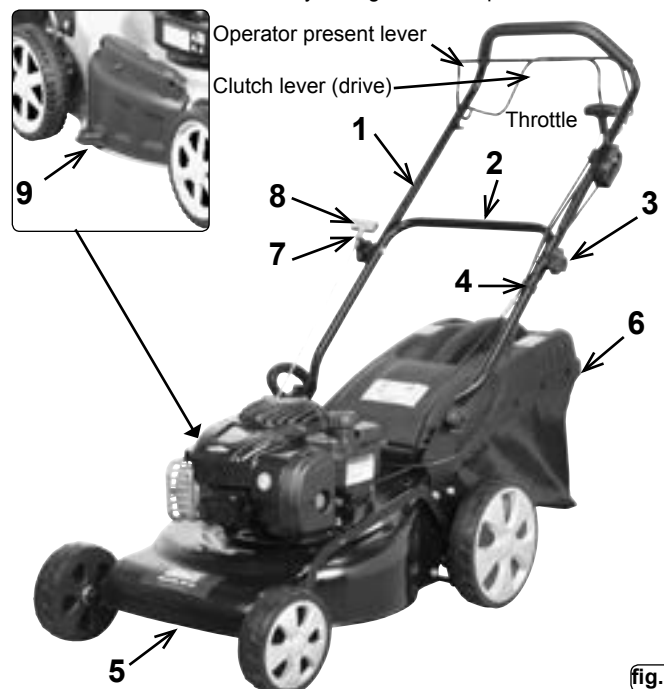

fig.1.
- 5.2.4. Position the cable clip (item 4) just below the frame clamp, see fig.1.